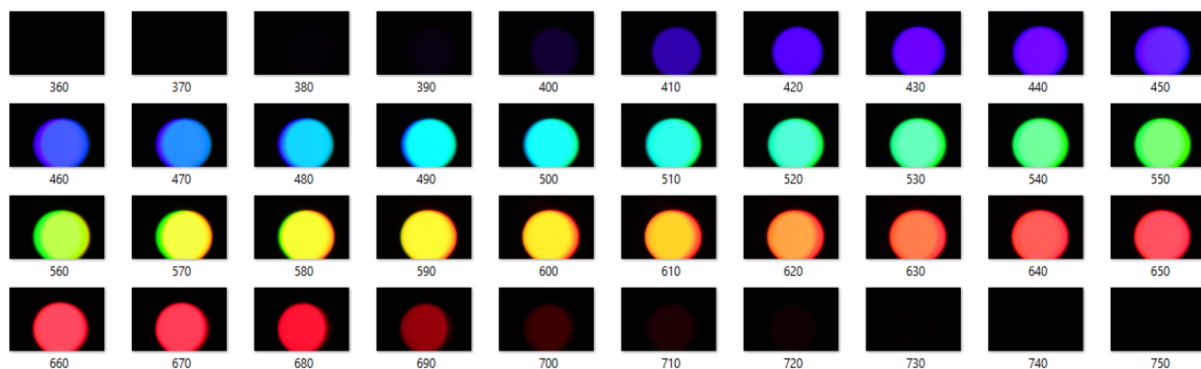

Figure 3: Acquired color chart of sensor from 360 to 750 nm using monochromator as seen on Fig.2
2. Record and save each image at a given wavelength as seen in Fig.3.